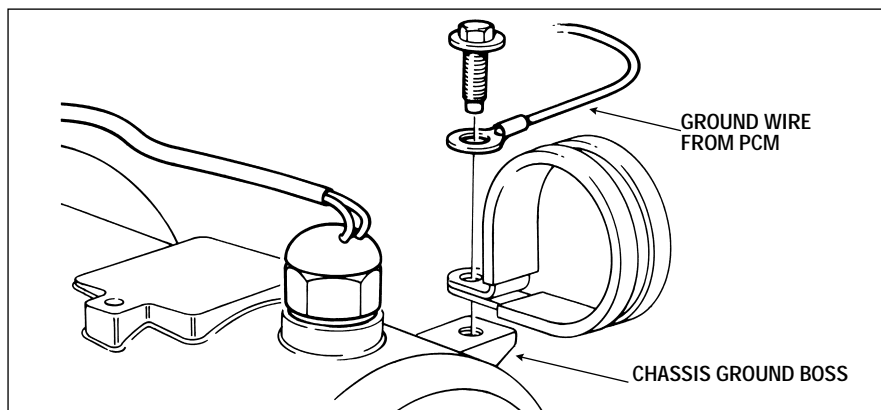

Figure 5-10 PROHEAT Ground Boss
The PROHEAT chassis is grounded from the PCM as shown in *Figure 5-10*. Ensure the ground is securely connected. Failure to ensure a proper ground may result in electrical shock.
- c) Test coil. (See *Figure 5-10*)